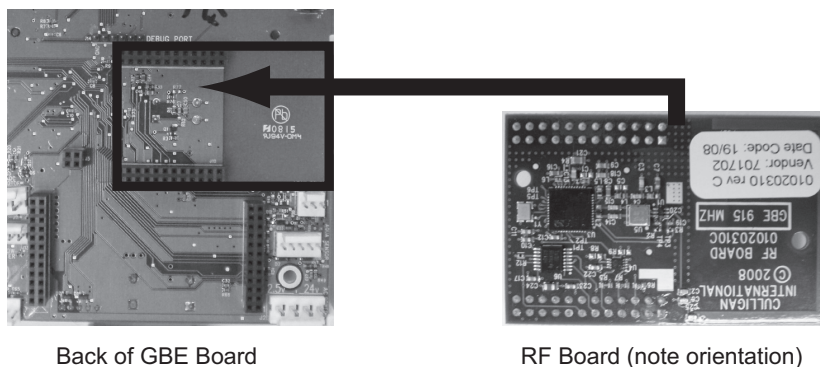

Figure 34. RF board location on Smart Controller board.
5. Install RF board into unit controller. Line up pins in RF board and press firmly into black connectors. Note orientation of RF board (see Figure 34). Make sure the RF board is fully seated into all of the sockets. Reconnect power.